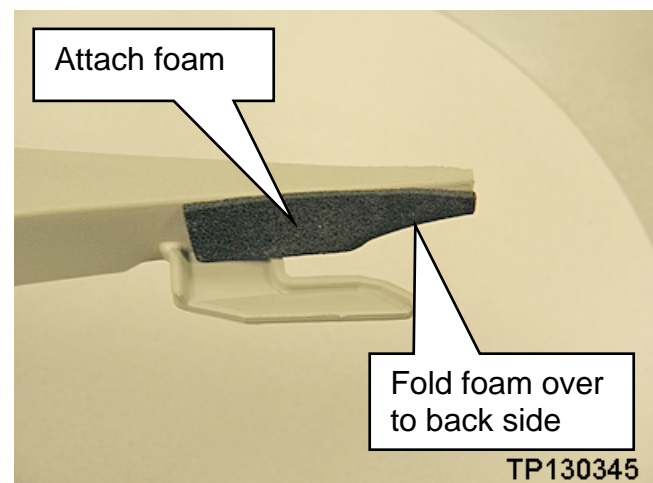

Figure 4
- Apply felt tape to both of the C-pillar finishers at the area shown in Figure 4, on page 2.
4. Apply felt tape to area of C-pillar finisher shown in figure 4, and then fold over to the back side.